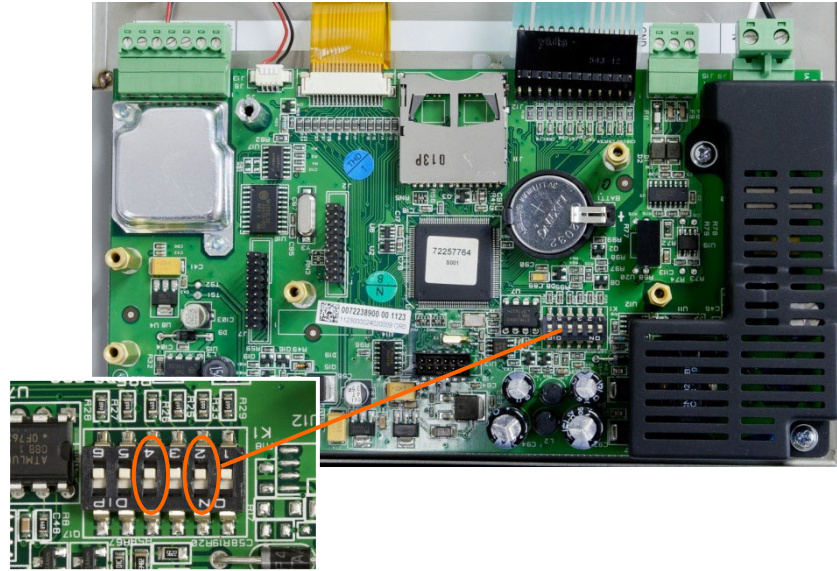

Figure 5-15: Switches SW1-2 and SW1-4
2. Place switch SW1-2 in the ON position, as shown in Figure 5-15.
- The position of SW1-4 (also shown in Figure 5-15) determines whether metrologically significant EEPROM data for scale calibration is reset when a master reset is performed. SW1-4 must be set to ON to reset EEPROM data. If SW1-4 is set to OFF, metrological EEPROM data will **not** be affected by the master reset and the original calibration will persist.